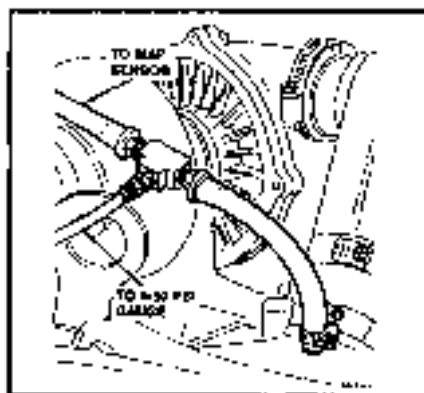

Figure 2.3-14. - Boost Pressure Tap Location
1. Install a tee into the MAP (Manifold Absolute Pressure) sensor line that comes from the intake manifold. (Figure 2.3-14.)